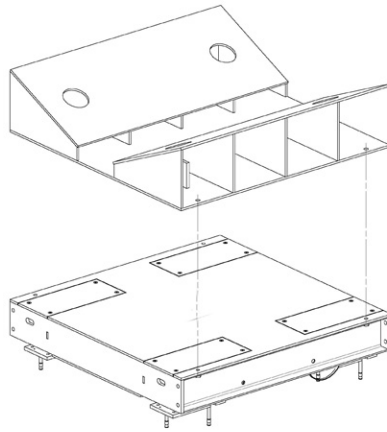

Figure 2-3. V-Top coil cradle option showing orientation
**Site Consideration:** The opening of the V-Top coil cradle option runs parallel with the load cell pocket cover plate. See Figure 2-3 on page 18
**Note** It is important to consider the orientation of the scale if using the V-Top coil cradle option. The V-Top coil cradle runs parallel with the load cell pocket cover plate. See Figure 2-3 on page 2.
**Note** *It is important to consider the orientation of the scale if using the V-Top coil cradle option. The V-Top coil cradle runs parallel with the load cell pocket cover plate. See Figure 2-3*